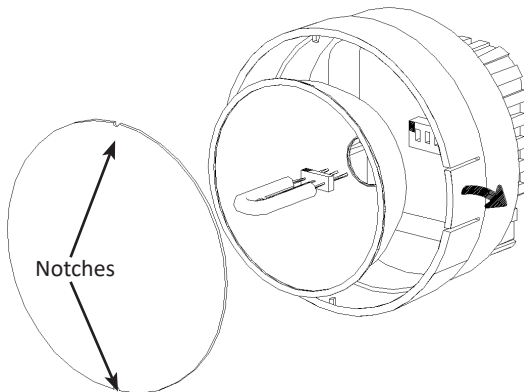

Figure 2 Lamp Replacement
3. Using a lint-free cloth, insert the new lamp by gently rocking the lamp while pushing it into place (see figure 2). Make sure the lamp is in straight and centered in the reflector hole.
4. Reinstall the reflector and then position the front lens in place matching up the notches on the lens with the two small tabs on the housing to prevent lens rotation (see Figure 2). Push the tabs on the front rim outward and press the lens into place.
The AC-powered stroboscope has a replaceable fuse inside the unit which may be accessed by removing the lens and reflector (Figure 2).